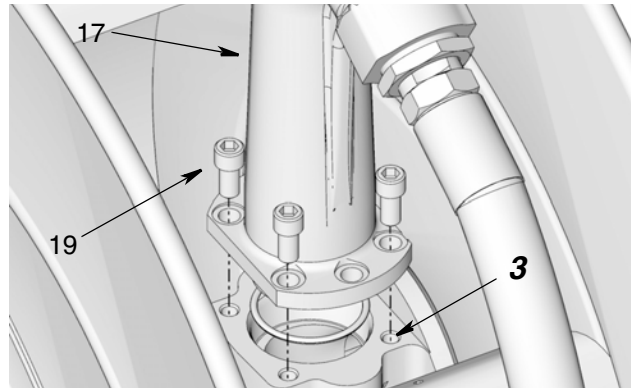

FIG. 56: Low Pressure Model (shown)
- Reinstall outlet (17) to swivel (3). Replace and tighten all screws (19) securely. Torque bolts to 24 to 30 ft. pounds (32.54 to 40.67 N.m) (FIG. 56).
- Low Pressure Models (shown in FIG. 56) use 4 screws (19).
- Medium Pressure Models (not shown) use 6 screws (19).